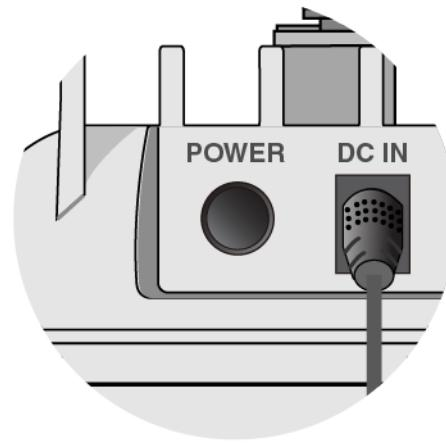

Figure 30. DC Power On/Off Button
4. Push the DC Power On/Off Button on the wireless access point to the "IN" position to turn on the DC connector. Refer to Figure 30.